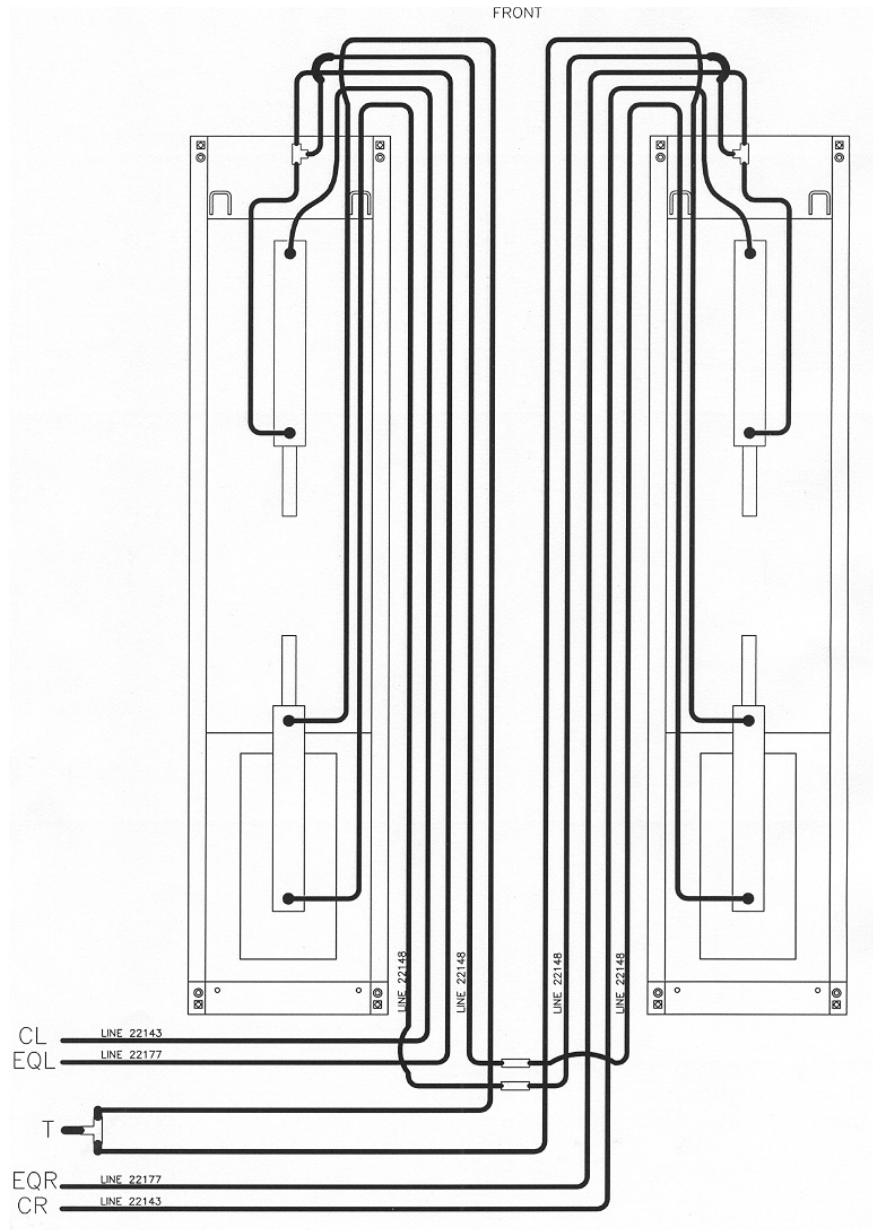

Figure 5 – Hydraulic Connections
2. Unravel the hoses and wiring from each runway and connect the hydraulic lines as shown in **Figure 5**. Do not kink hydraulic hoses or air lines.